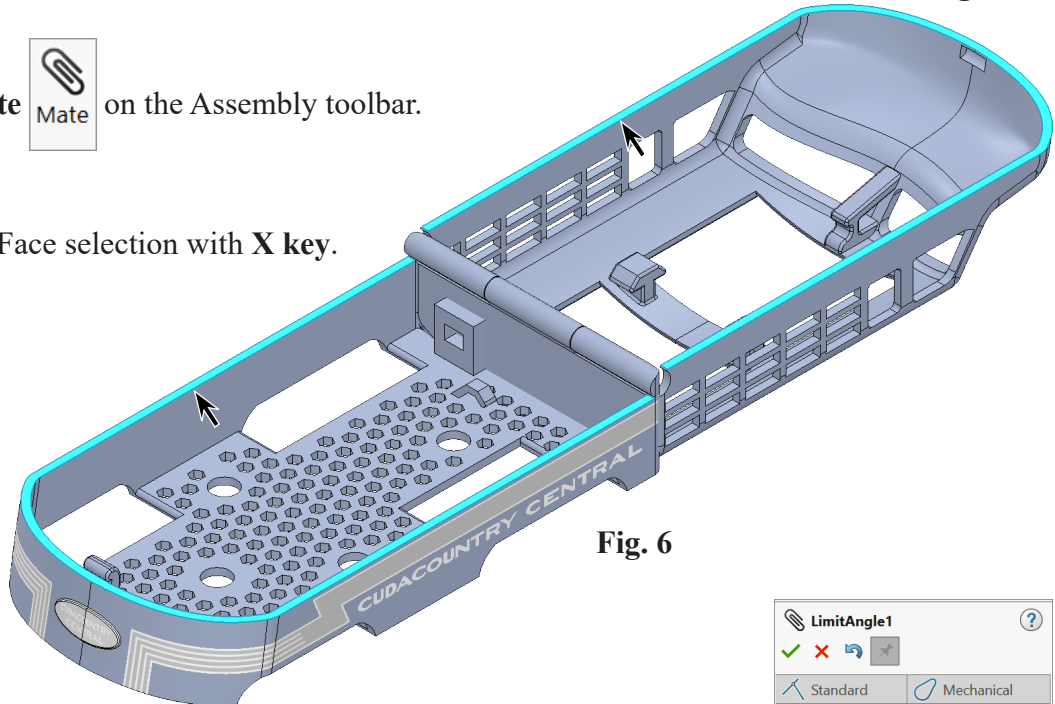

Fig. 6
Step 7. Grab the **Hatch** and **rotate** around to view inside side of both Hatch and Chassis, **Fig. 6**.
click **inside top/bottom faces of Chassis and Hatch, Fig. 6**